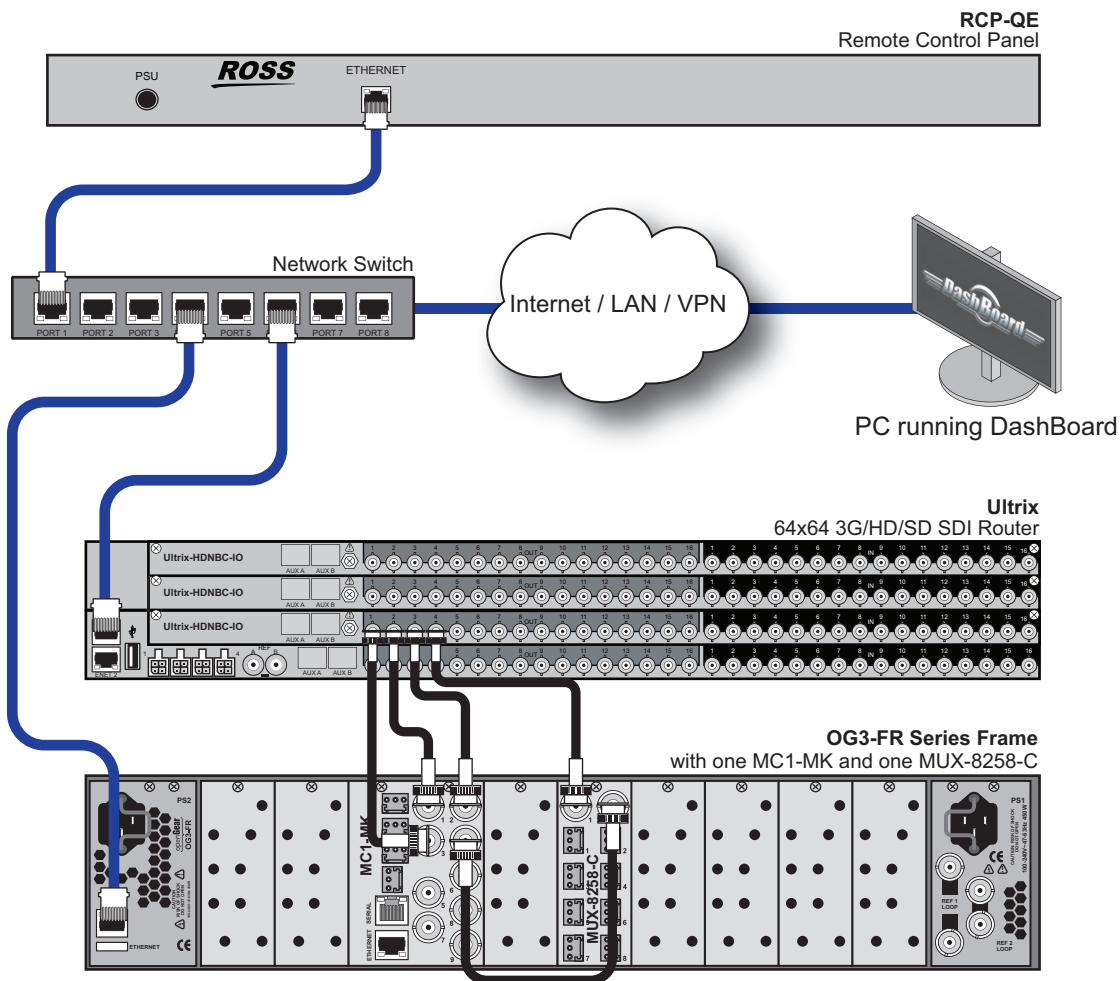

Figure 8.2 Routing System Workflow with a Ross Ultrix Router and an MC1-MK
**Figure 8.2** illustrates the physical connections in a routing system that includes a Ross Ultrix router and the MC1-MK. Ross Video does not supply these cables. Note that your facility requirements may differ from what is presented here.